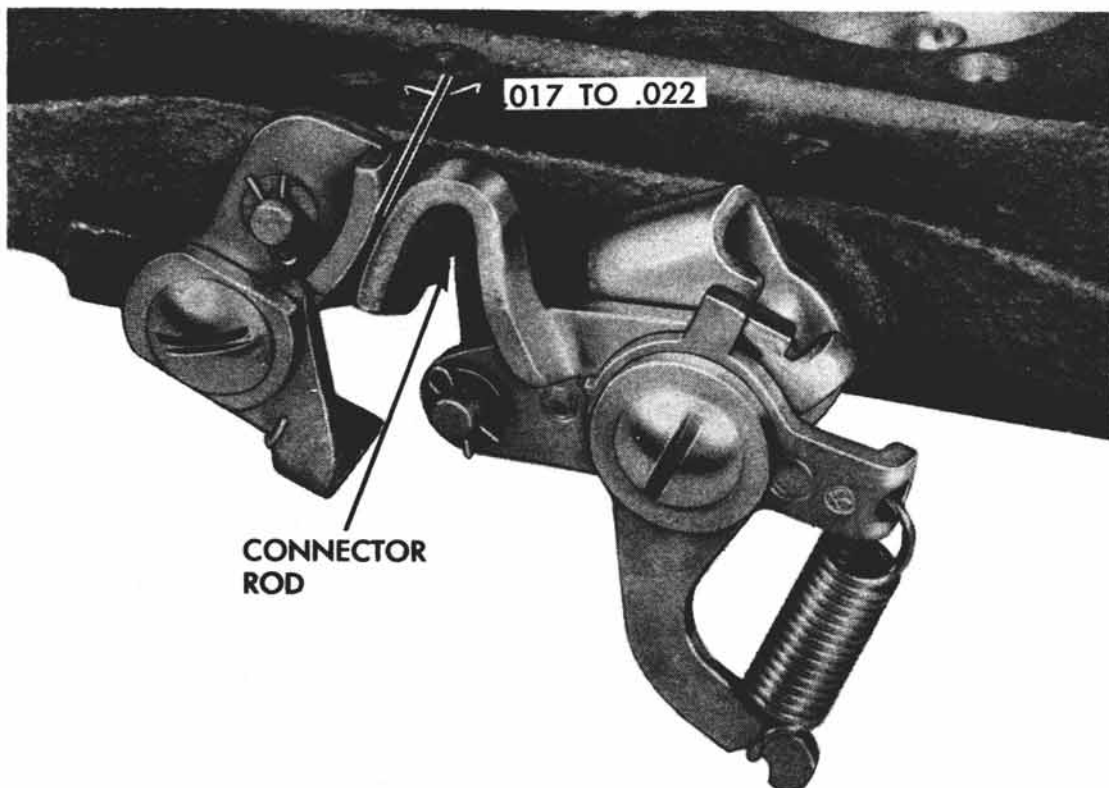

Fig. 19-C Secondary Throttle Lever Clearance
2. To adjust, bend throttle operating rod at upper angle with tool J-5496 (Fig. 19-C).